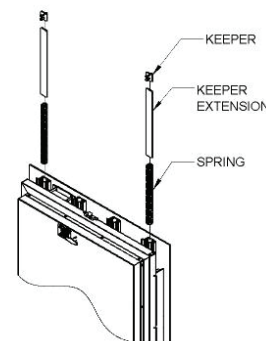

FIGURE 1
- Slide in the keeper extension until it rests on the spring. (Figure 1)